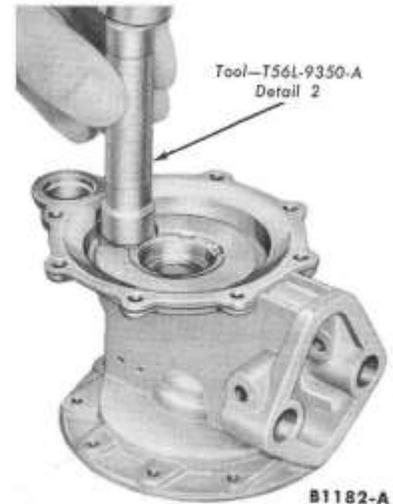

FIG. 4—Booster Pump Valves and Gaskets Installation
2. Press the booster pump valves and gaskets in the pump body and vacuum pump cover (Fig. 4). Stake the valves in place.